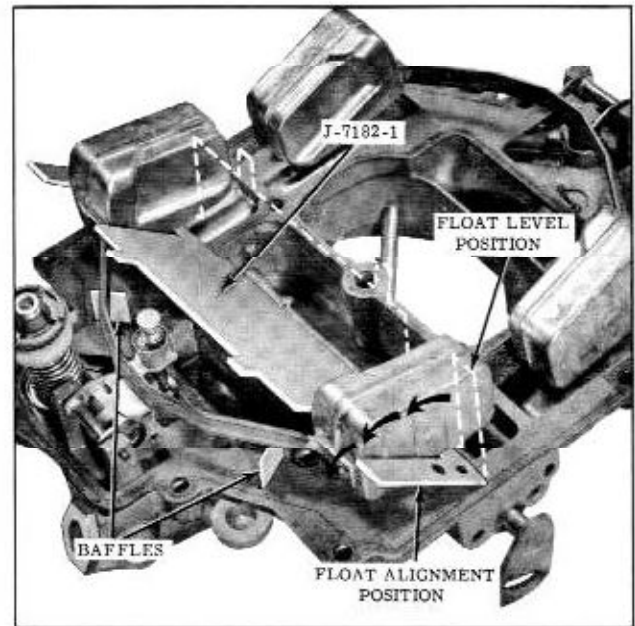

Fig. 8-118 Checking Primary Float Level and Alignment
1. With gasket in place and the air horn inverted, position gauge J-7182-1 under the primary float as shown in Fig. 8-118.
4. To check float alignment rotate gauge as indicated in Fig. 8-118. Float pontoon should be centered in the gauge cutout.